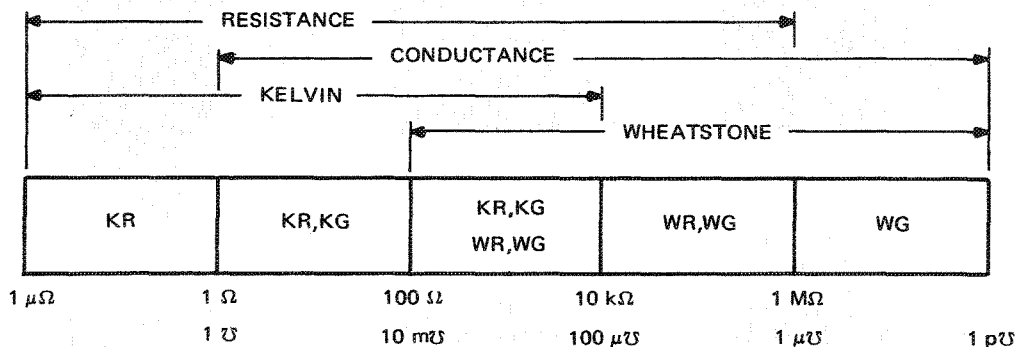

Figure 2-1. Selection of bridge circuit.
Measurements using the resistance bridges (either Kelvin or Wheatstone) can be made up to $1.1 \text{ M}\Omega$. Above this value, conductance must be measured and the reciprocal of the reading made, to obtain the resistance value. Similarly, measurements using either conductance bridge can be made up to 1.1 mho (down to 0.9Ω). Above this value, resistance must be measured and conductance obtained from the reciprocal of the reading. Between 0.9Ω and $1.1 \text{ M}\Omega$, either mode and bridge type can be used and readings made directly. Figure 2-1 summarizes the measurement mode and bridge type to be used for a given range i.e., Kelvin-Resistance (KR), Kelvin-Conductance (KG), Wheatstone-Resistance (WR), or Wheatstone-Conductance (WG).